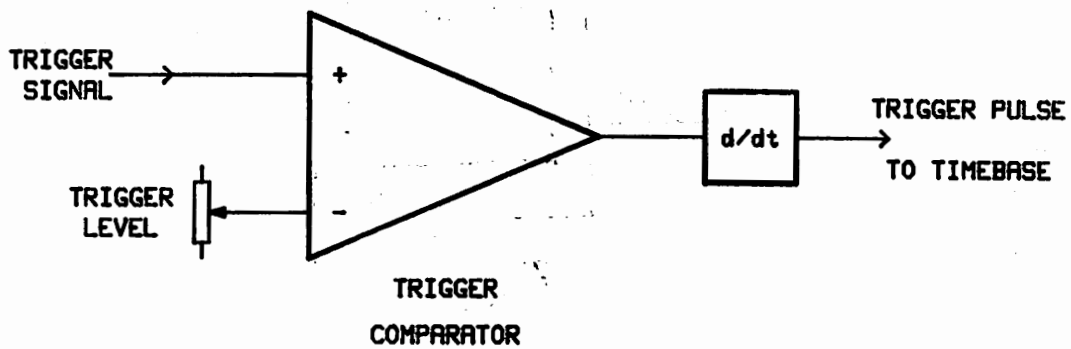

Fig 3. Simple Trigger Signal Generator.
The simplest solution is to detect when the input waveform reaches a predetermined voltage level. This can be done by means of a voltage comparator. The output is differentiated and used to set the bistable. If the reference input to the comparator is variable then the trigger point may be adjusted to suit particular requirements. This is the basis of the trigger level control. Figure 3 illustrates this.
- Q 5.2 With reference to figure 3 suggest how this control might operate.